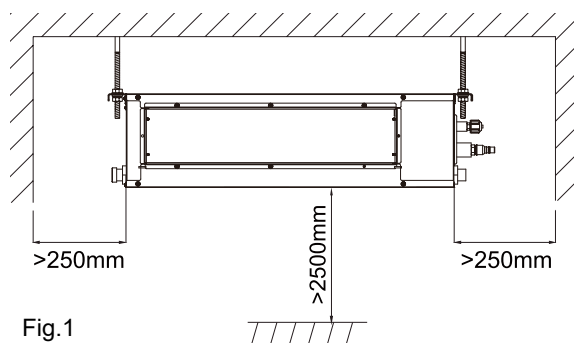

Fig.1
4. Ensure the installation space shown in Fig.1 is left for the access to maintenance.